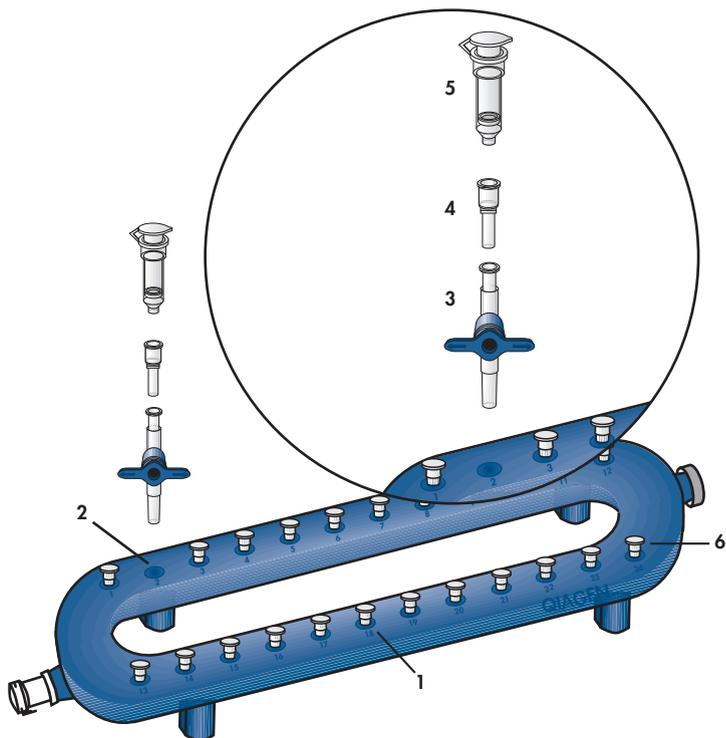

Figure 2. Setting up the QIAvac 24 Plus with QIAamp MinElute columns using VacValves and VacConnectors.
2. Insert a VacValve into each luer slot of the QIAvac 24 Plus that is to be used (see Figure 2). Close unused luer slots with luer plugs or close the inserted VacValve.
3. Insert a VacConnector into each VacValve (see Figure 2).
4. Place the QIAamp MinElute columns into the VacConnectors on the manifold (see Figure 2).